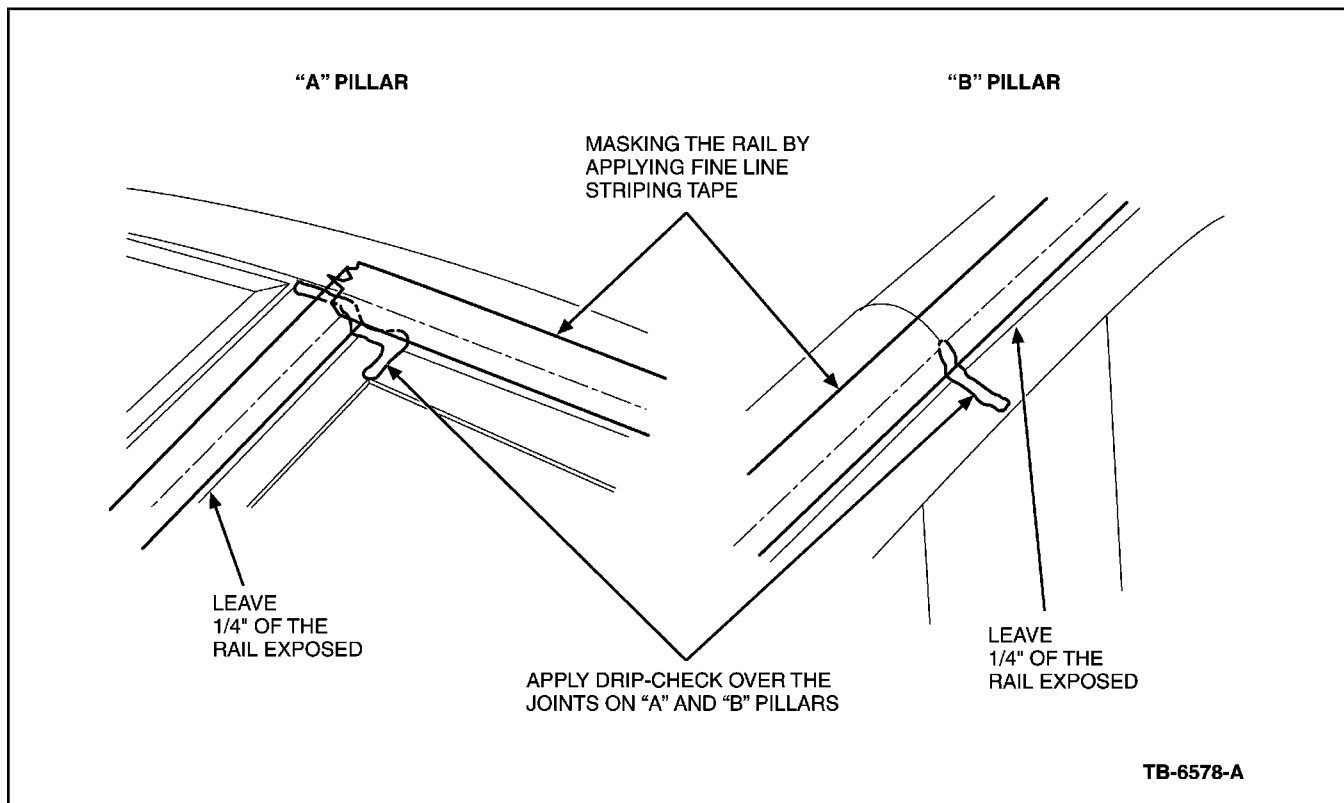

Figure 3 - Article 02-6-4
8. Apply 3M Drip-Check (p/n 08531) over the joints at the A- and B-pillars, as shown in Figure 3.
9. Mask the rail as shown in Figure 3 by applying fine line striping tape such as 3M p/n 06314 on the vertical surface of the rail and the header, and then peeling the lower 1/4" of the tape away. You may also apply 1/4 " fine line striping tape such as 3M p/n 06301 on the lower vertical surface of the rail, then 1" masking tape directly above the fine line tape, and finally removing the fine line tape to expose the lower 1/4 " of the rail's vertical surface.